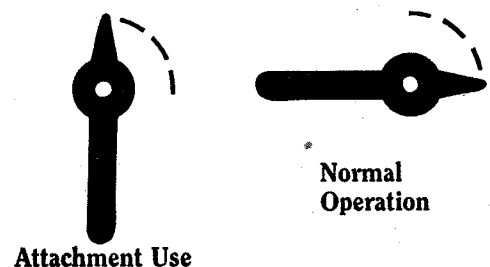

Fig. 1
4. Move solution control lever to Attachment Use setting. Illustration Fig. 1